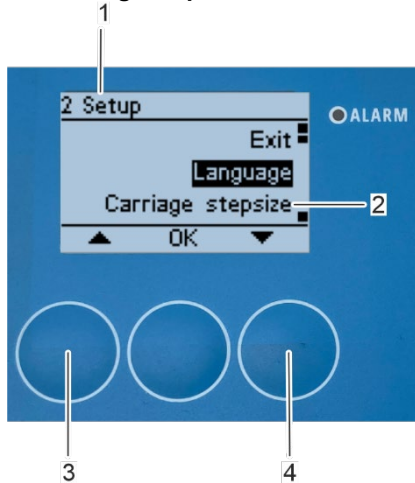

Fig. 126: Select submenu "carriage stepsize"
- ⇒ The "2 Setup" submenu appears on the display again (Fig. 126/1).
1. Select the "Carriage stepsize" submenu (Fig. 126/2) with the arrow keys [up] (Fig. 126/3) and [down] (Fig. 126/4).